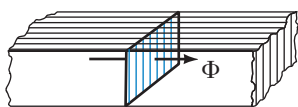

FIGURE 12-43
5. If the section of core in Figure 12-43 is 0.025 m by 0.04 m, has a stacking factor of 0.85, and $B = 1.45 \text{ T}$, what is Φ in webers?
6. If the core of Figure 12-43 is 3 cm by 2 cm, has a stacking factor of 0.9, and $B = 8 \times 10^3$ gauss, what is Φ in maxwells?